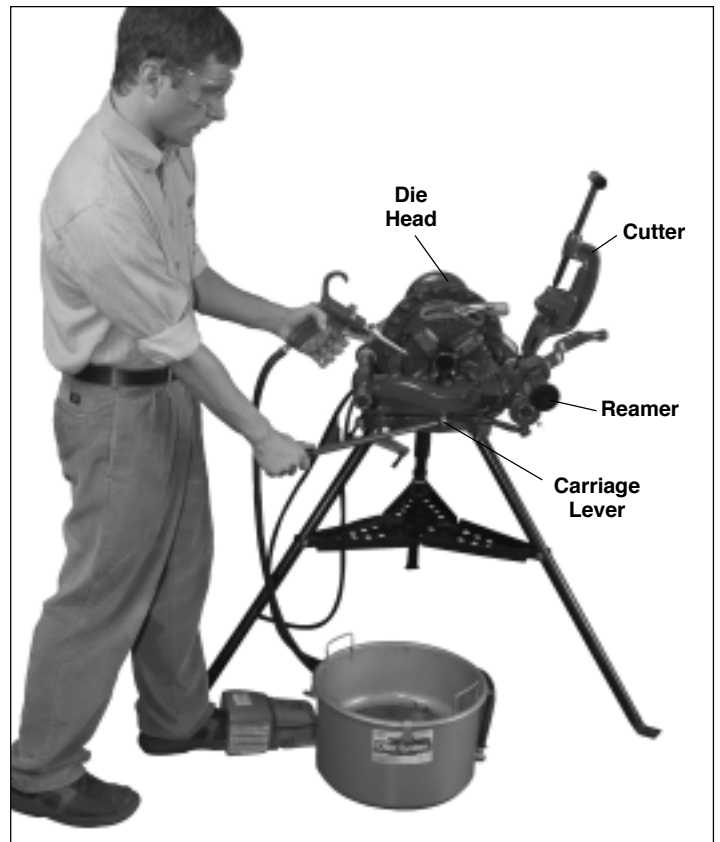

Figure 9 - Threading Pipe with R811 Die Head
2. Swing cutter and reamer to out-of-way position (Figure 9).